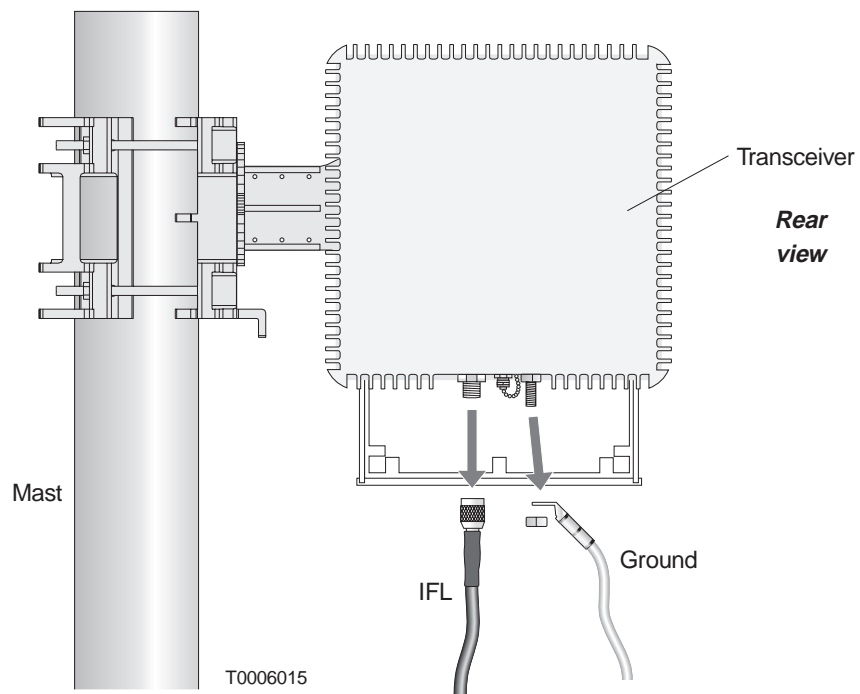

Figure 10-1 Disconnecting the ODU ground and IFL cables
3. **On the roof: Disconnect the ground cable and IFL from the ODU transceiver, as shown in figure 10-1.**